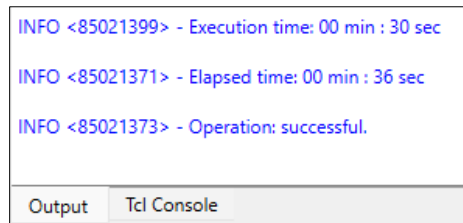

Figure 6.11. Programming Output Window
8. When the FPGA programming is successful, the output console displays the **Operation: successful** message (Figure 6.11).